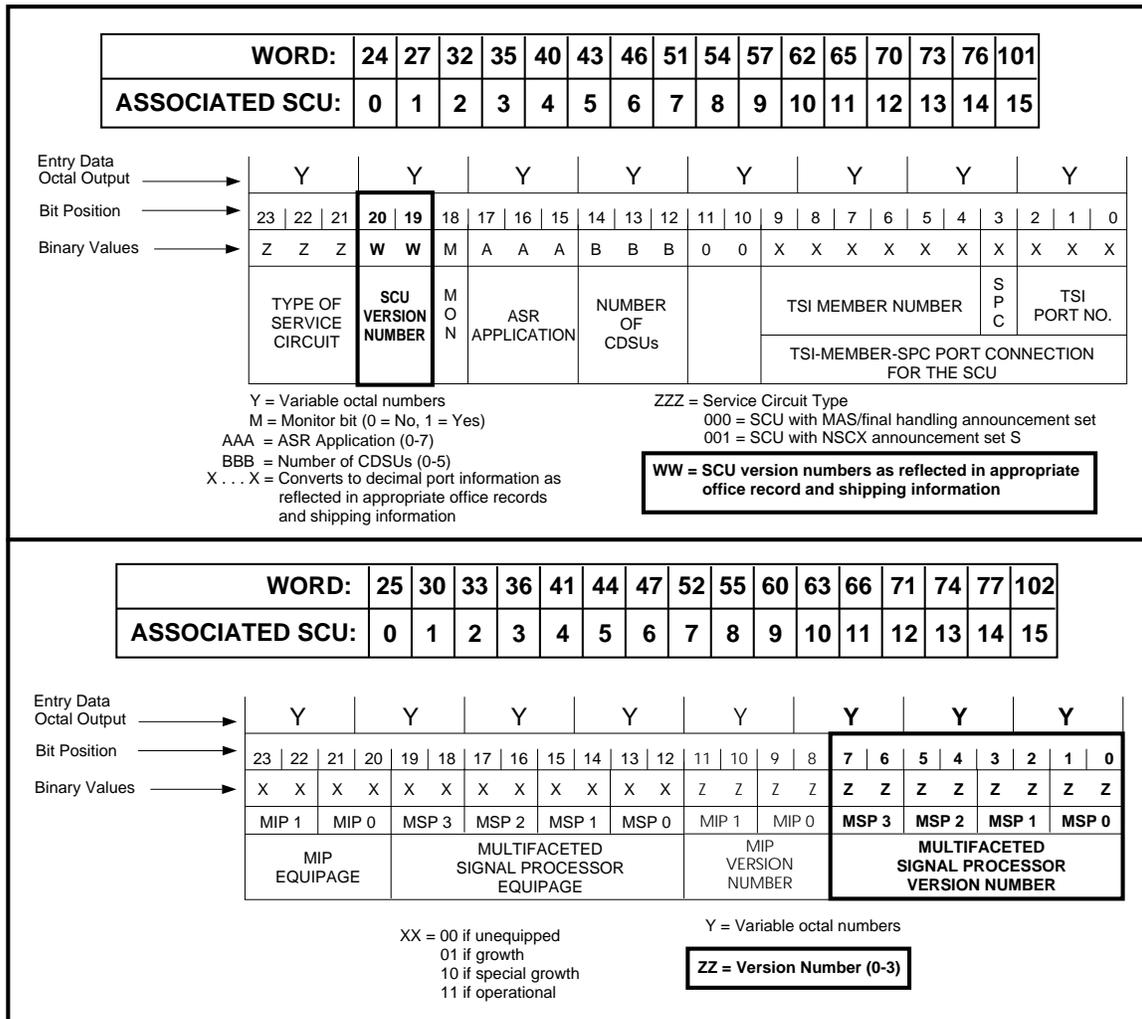

Figure 2. Words in SCS Unit Type Translator Used to Determine SCU and MSP Version Numbers
The above responses are followed by a complete printout of the SCS unit type entry data. Use this printout and Figure 2 to determine if the SCU data (SCU and MSP version numbers) was properly entered.
- Using the printout from Step 1 and Figure 2 (page 3), determine the existing version number for Controllers 0 and 1 by looking at bits 0 through 5 in octal word 10. The existing version number should be the same for both controllers and can range from 0 to 3.
- Using the printout from Step 1 and the middle section of Figure 2 (page 3), determine the version number for **existing** SCUs by looking at bits 19 and 20 of the applicable words.